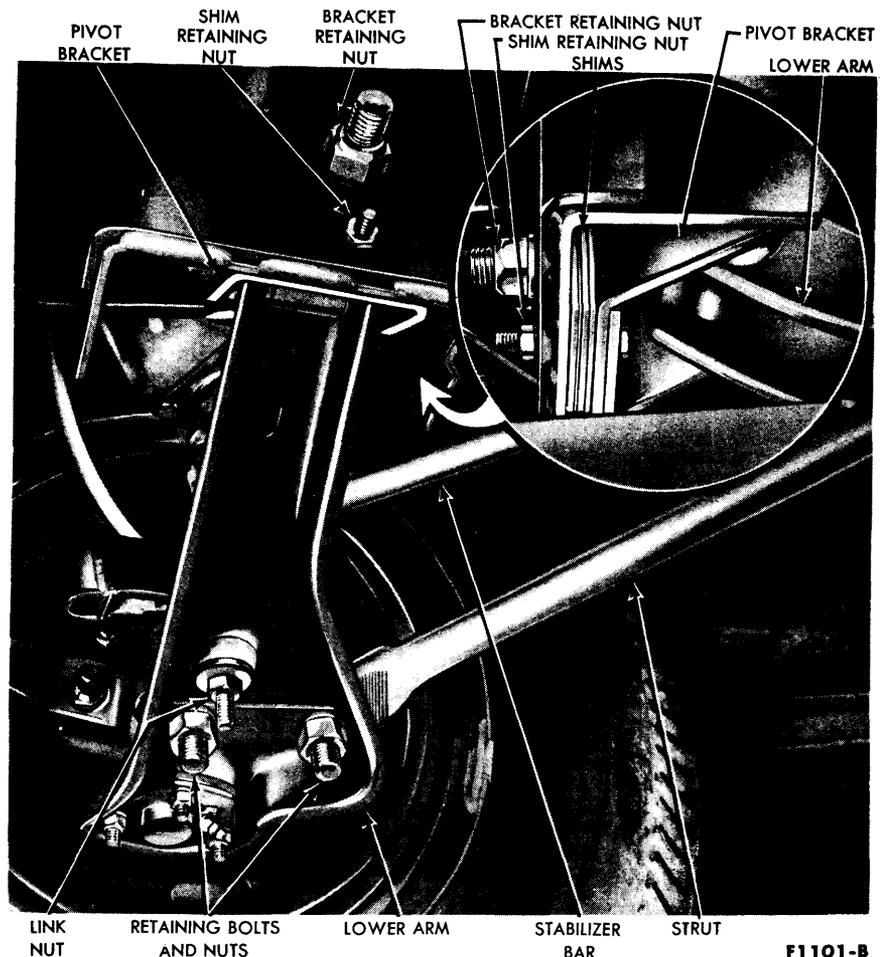
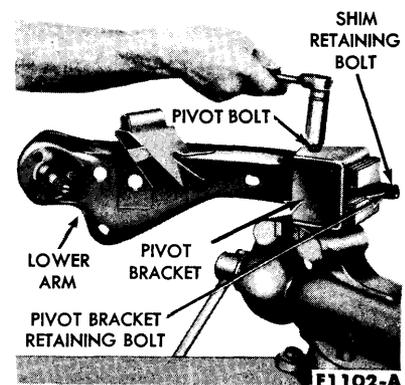

FIG. 8—Lower Suspension Arm Installed
FIG. 9—Lower Suspension Arm Assembly
4. Remove the link nut underneath the arm (Fig. 8), and disconnect the stabilizer link from the arm.
5. Remove the retaining nuts, bolts, washers and plates, then disconnect the strut from the lower arm (Fig. 8).
8. Remove the pivot bracket retaining nut and the shim retaining nut (Fig. 8), then remove the bracket and lower arm assembly from the car.
(Fig. 9). Remove the pivot bolt, and separate the pivot bracket from the lower arm.
1. Assemble the pivot bracket to the new lower arm with the pivot bolt, place the assembly in a vise, and install the pivot bolt nut (Fig. 9). Tighten the nut snug. Do not torque until the lower arm assembly is installed in the car.
2. Slide the shims over the retaining bolts against the pivot bracket (Fig. 9), then mount the lower arm and pivot bracket assembly to the chassis mounting bracket (Fig. 8). Install the pivot bracket and shim retaining nuts.
4. Position and connect the lower arm strut to the lower suspension arm with retaining plates, bolts, washers, and nuts (Fig. 8). Torque the nuts.